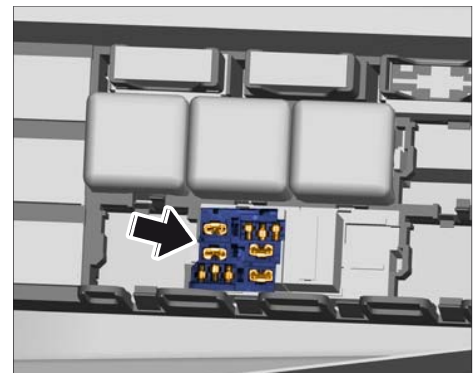

Figure 3
**If a flat plug is bent, check the **plug sockets** in the relay carrier ⇒ *Figure 3 -arrow-* for **deformation** and bend them into shape again using a suitable tool if necessary.**